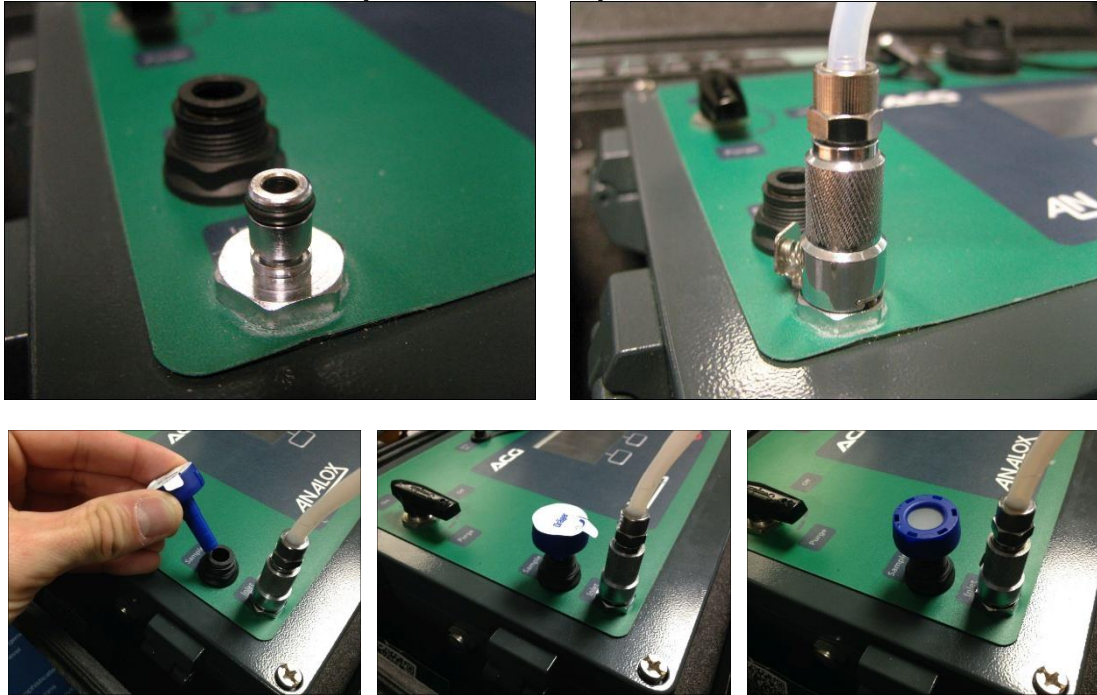

Figure 39 ***A Dräger Impactor Attached to the Outlet Port for Oil Mist Testing***
- 1] Attach the target gas to the sample inlet and the measurement device or sample pipe to the gas outlet port on the ACG+ front panel (see Figure 39).